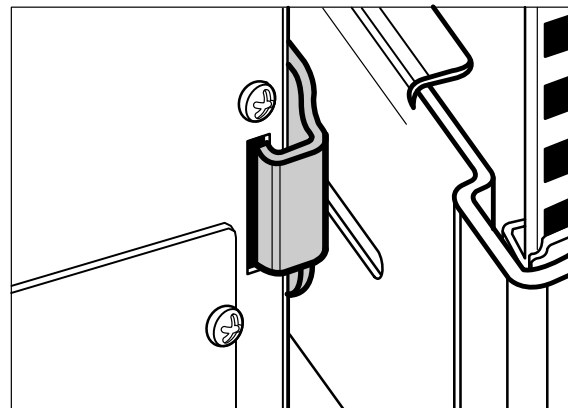

Figure 50. Inserting the Rear Hold-Down Bracket
- 15.** Insert the two rear hold-down brackets on the rails into the slots on the rear of the cabinet (see Figure 50).